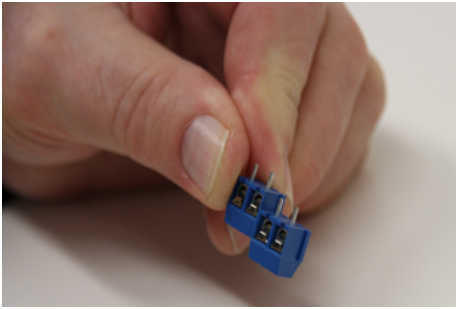

Fig.7
1. Slide together 2 of the 2 position terminal blocks as shown in Fig. 7, 8 to make a 4 position terminal block for Motor Connections.